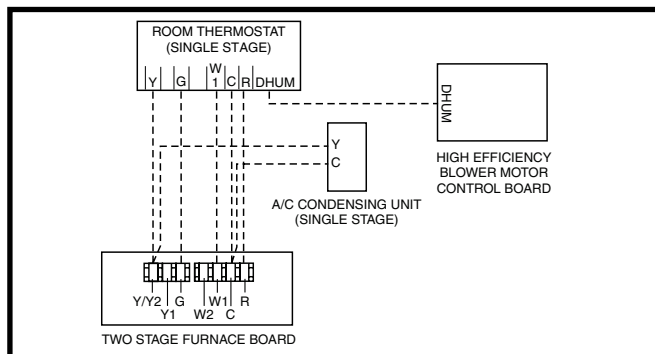
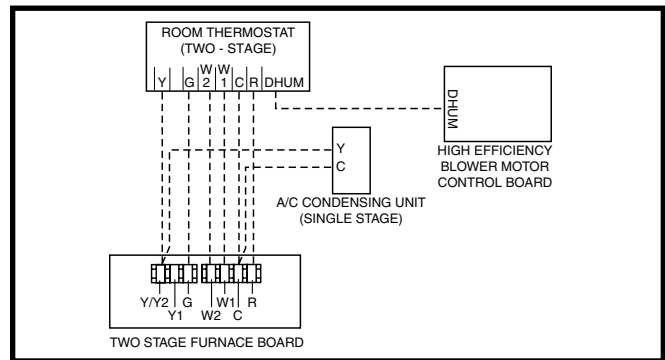
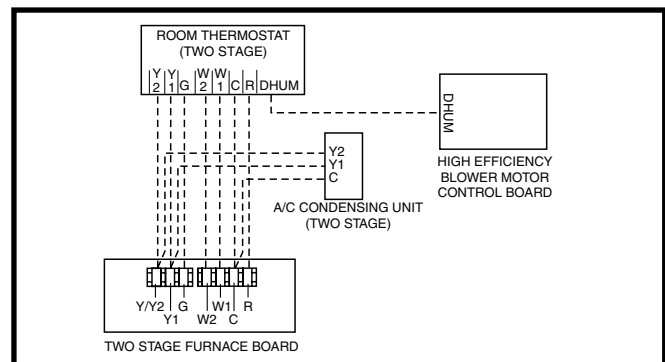

Figure 15. Wiring Configuration 1
Figure 16. Wiring Configuration 2
Figure 17. Wiring Configuration 3
- Connect the thermostat's **W** output to the furnace control boards **W1** terminal. This allows the furnace to always run in low output mode. See Figure 15.
This option uses the full two-stage heating capability of the furnace with a single stage outdoor unit. See Figure 16.
This option uses the full two-stage heating capability of the furnace with a two-stage outdoor unit. See Figure 17.
The Autostaging feature included make it possible to use a single stage thermostat and still receive some of the benefits of 2-stage furnace operation. If Autostage is enabled, the furnace will drop to **LOW** fire after initially starting in **HIGH** fire. After a period of 10 minutes, the furnace will then stage up to **HIGH** fire, until the heating load is met. See Figure 15 and the Thermostat / Low Voltage Connection section.
- √ Verify that all needed thermostat wires are securely connected to the correct leads on the terminal strip of the circuit board. See Figure 15, \(page 21\), Figure 16, \(page 21\), & Figure 17, \(page 21\).
The operating sequences for the heating, cooling, and fan modes are described below. Refer to the field and furnace wiring diagrams: Figure 14, \(page 20\) , Figure 15, \(page 21\), Figure 16, \(page 21\), Figure 17, \(page 21\), Figure 25, \(page 34\), Figure 26, \(page 35\), Figure 27, \(page 36\), and Figure 28, \(page 37\).